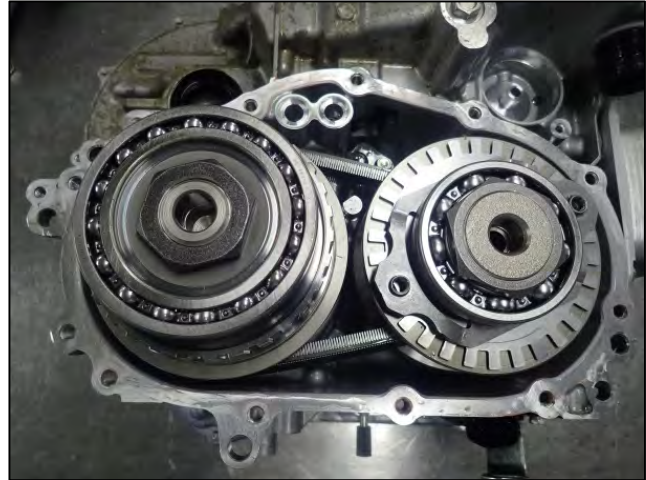

Figure 207
**HINT:** Figure 207 shown with side cover removed.